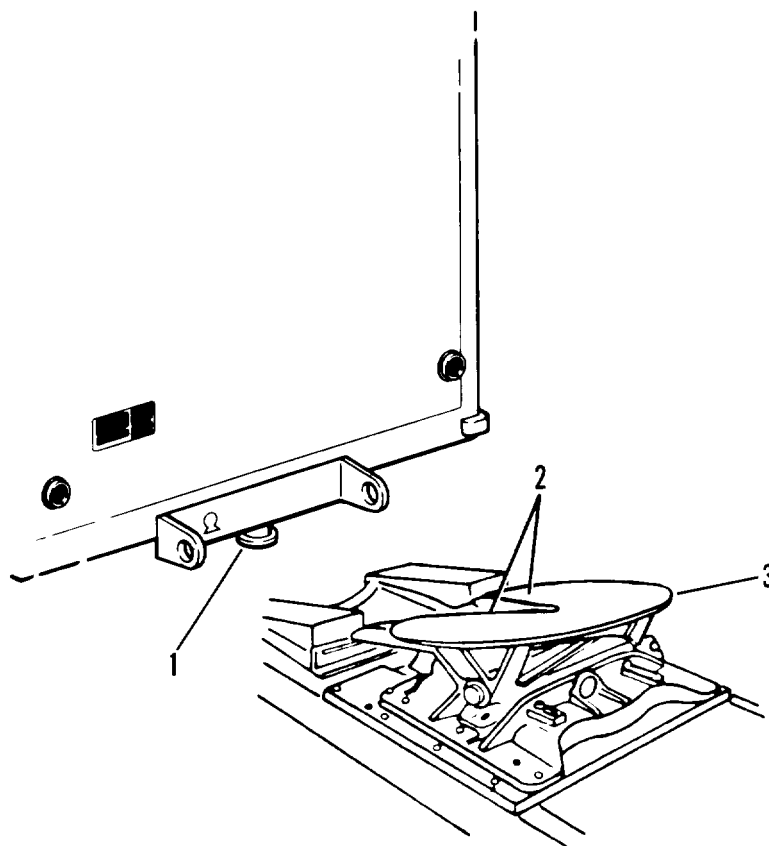

Figure 2-17. Coupling semitrailer to towing vehicle
- (1) Align towing vehicle with semitrailer.
- (2) Slowly back towing vehicle into position. Be sure kingpin (1, figure 2-17) is in line with fifth wheel coupler jaws (2).
- (3) Stop the towing vehicle just before the kingpin plate of the semitrailer starts to ride up the fifth wheel (3) of the towing vehicle.